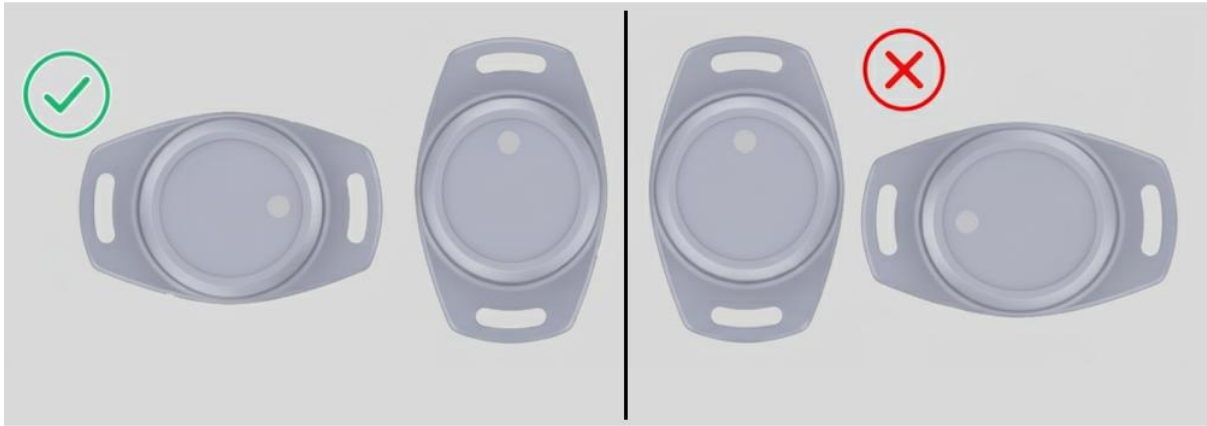

Figure 3-Tag Mounting Placement
2. Tag placement in order to ensure that each GTA003 BLE Tag can be read in all working conditions, follow the placement and orientation instructions below. The aerial on the tag is located at the top of the device. When GTA003 tags are mounted, they should be mounted in the upright (vertical) position as shown in Fig 3.